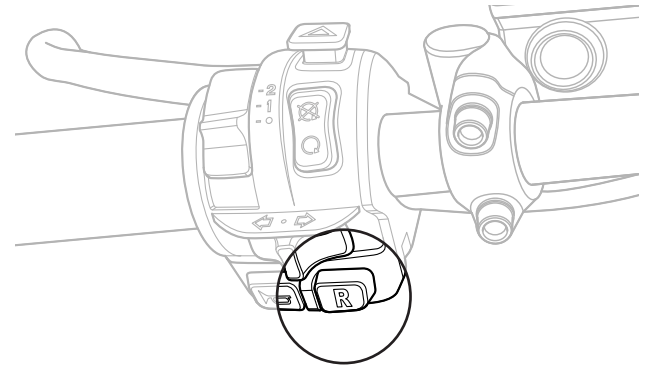

Figure 30: Press and hold the Reverse switch while backing up
2. Press and hold the Reverse switch (**R**) on the Left Handlebar Control with your left thumb (**Figure 30**).